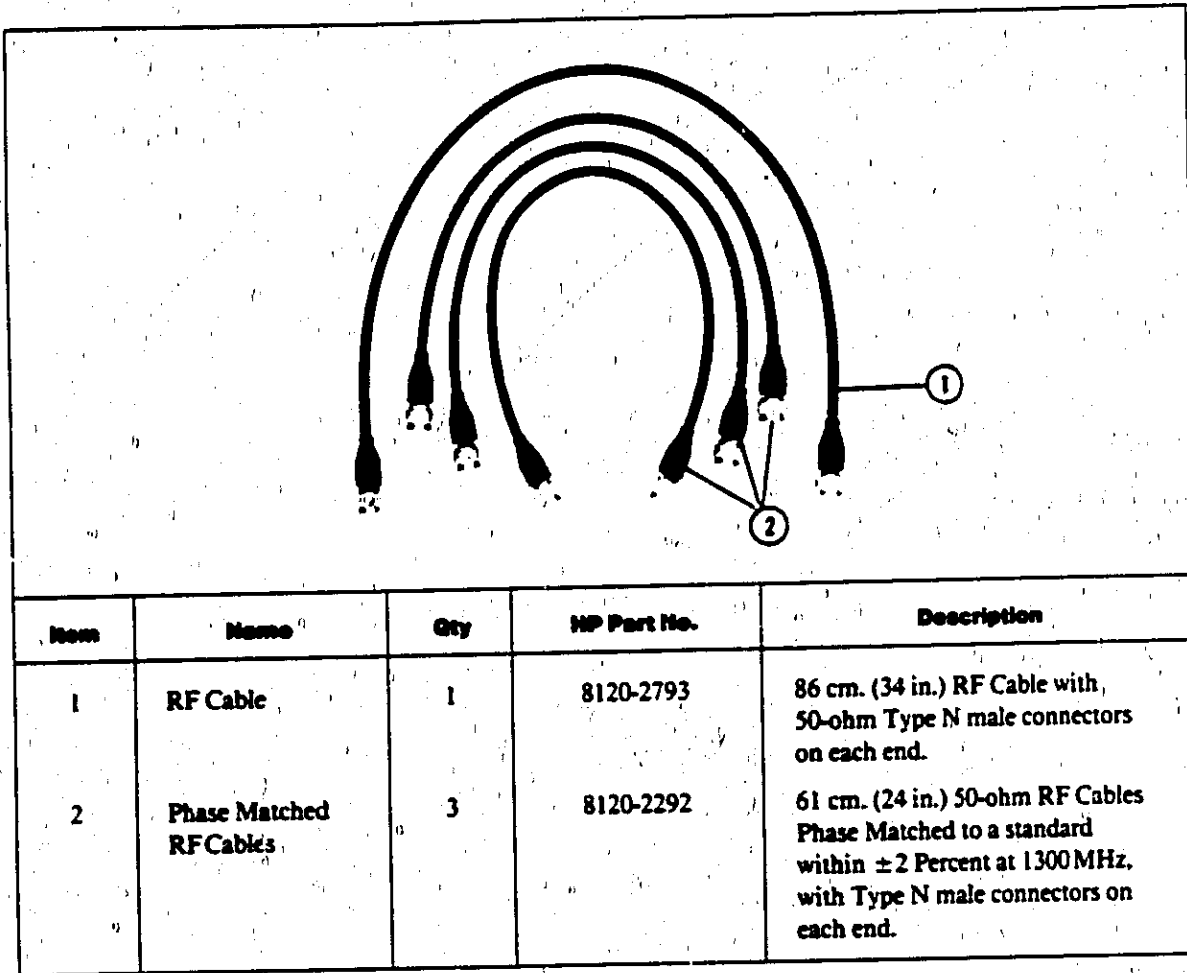

Figure 3. HP 11851A Cable Accessory Set (ERRATA)
Change this paragraph to read: Hewlett-Packard Cable Accessory Set 11851A, shown in Figure 3, contains four cables. Three of these are phase matched to a standard, and are available individually. These cables help provide accurate measurements when using the HP 8505A Network Analyzer and other instruments.
▶ **Page 3, Figure 3:**
Replace Figure 3 with the HP 11851A Cable Accessory Set figure supplied in this Change Sheet.